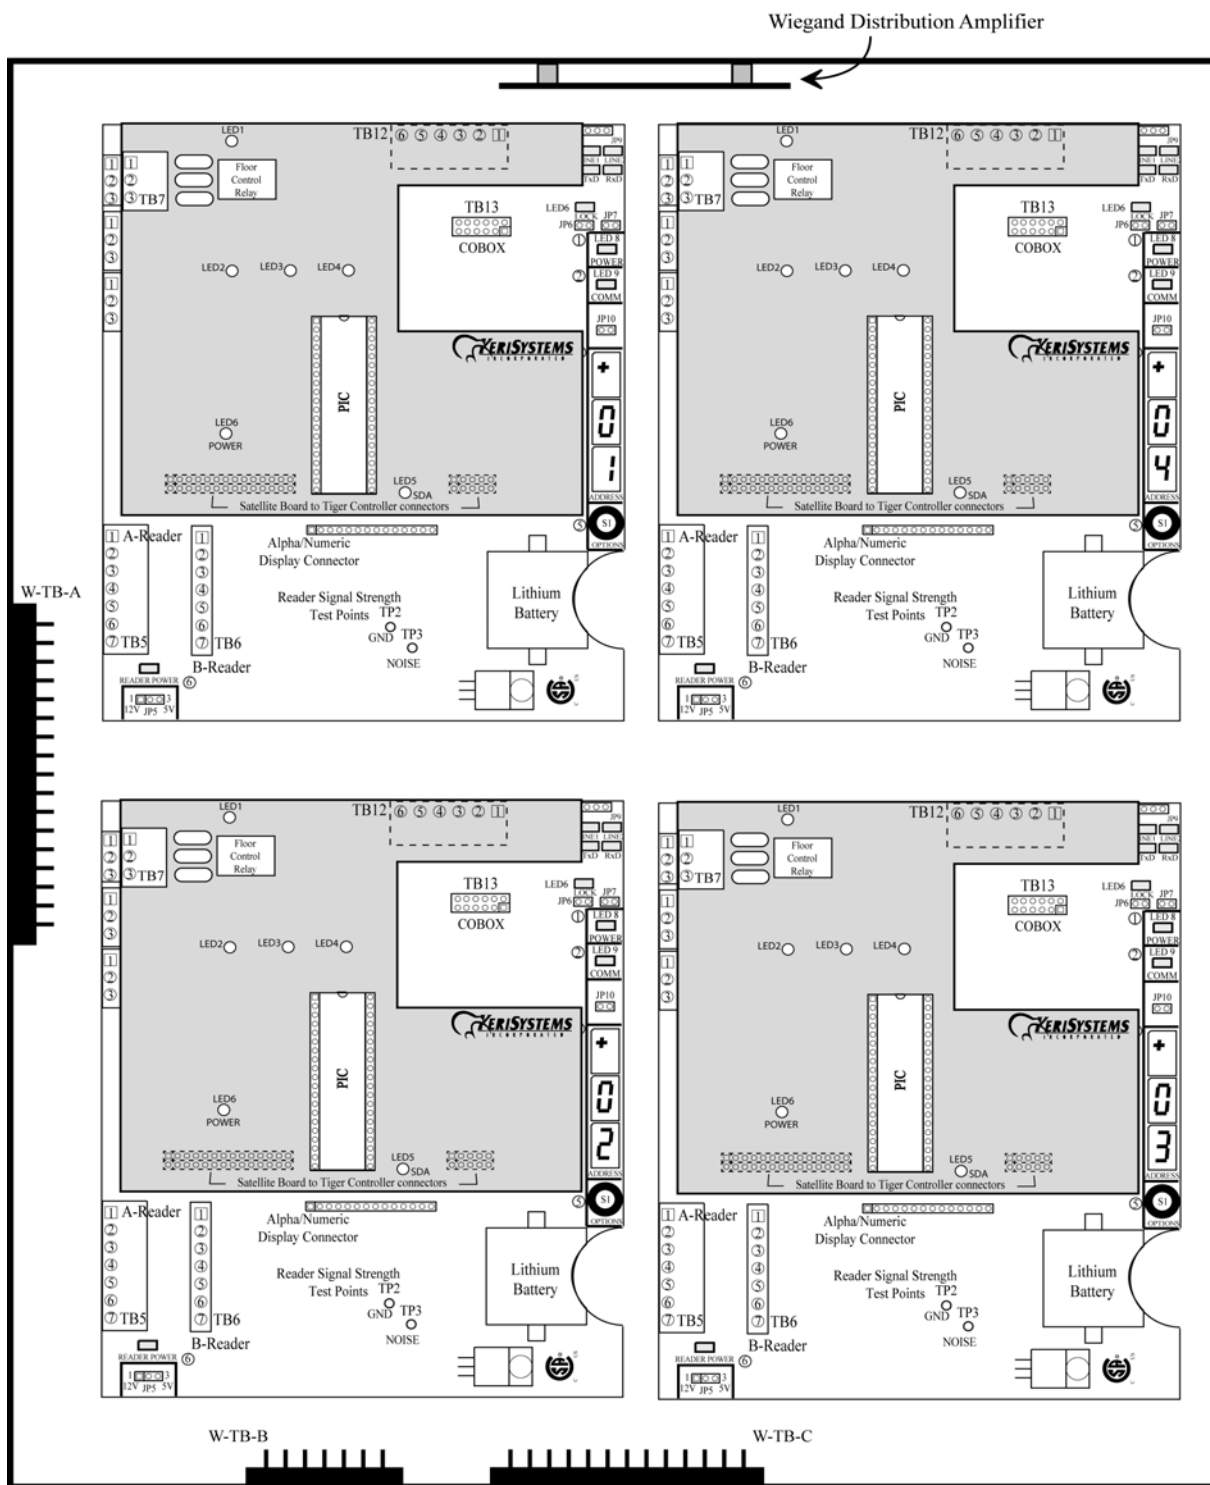

Figure 4: The LC-508W Elevator Control Panel
- Refer to Figure 4 on page 9 when reviewing the information throughout Section 5.3 beginning on page 16.